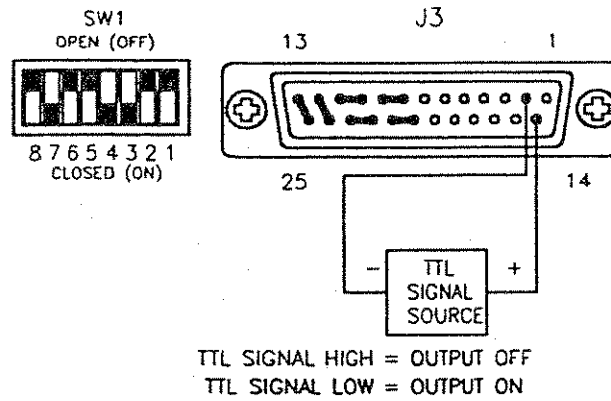

Figure 4.5-1 Using Shutdown with a TTL Compatible (Positive Logic)
1. Turn off the power supply and disconnect the AC power source. Allow five (5) minutes to elapse to dissipate stored energy before making connections or resetting switches.
2. Connect the TTL signal source to pin 14 (TTL Shutdown Input/positive) and pin 2 (Return for Shutdown Input) on the J3 connector on the rear panel. See **Figures 4.5-1** and **4.5-2**.